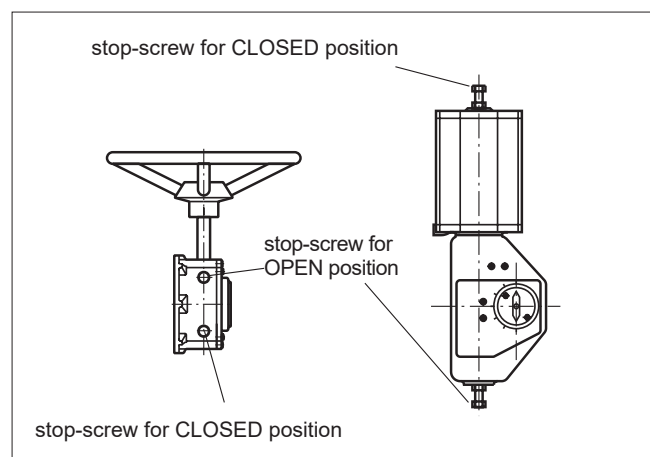

Fig. 27 Open and closed positions of the actuator
- Adjust the circular movement of the ball with the hexagon screws located at the side of the housing (see Fig. 27). The stop-screw for the open position is nearest to the handwheel on the side of the housing and the screw for the closed position is at the opposite end. The turning directions for the handwheel are marked on the wheel.
- Adjust the ball open and closed positions by means of the actuator stop screws located at both ends (see Fig. 27).